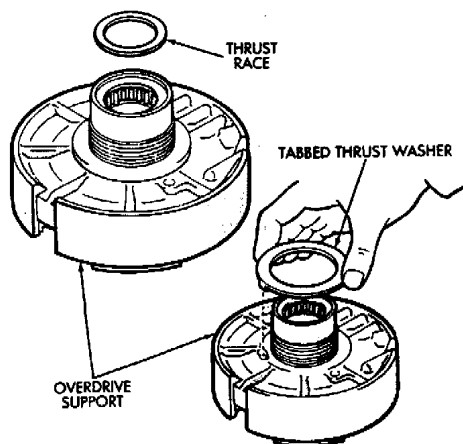

Fig. 36 Installing Overdrive Support Thrust Race And Washer
(44) Coat thrust race and tabbed washer with petroleum jelly and install them on overdrive support (Fig. 36). Verify race size. Race outer diameter is 50.9 mm (2.004 in); inside diameter is 36.2 mm (1.426 in).